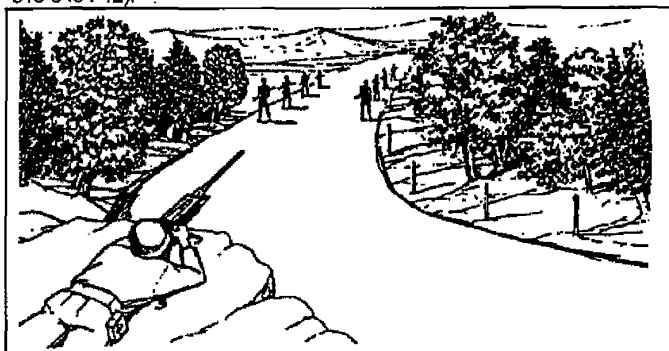

Figure 071-313-3454-12. Deep target
(5) Area target. Initially aim at midpoint of the target area. Traverse and search to either flank, then traverse and search to the opposite flank (figure 071-313-3454-13).